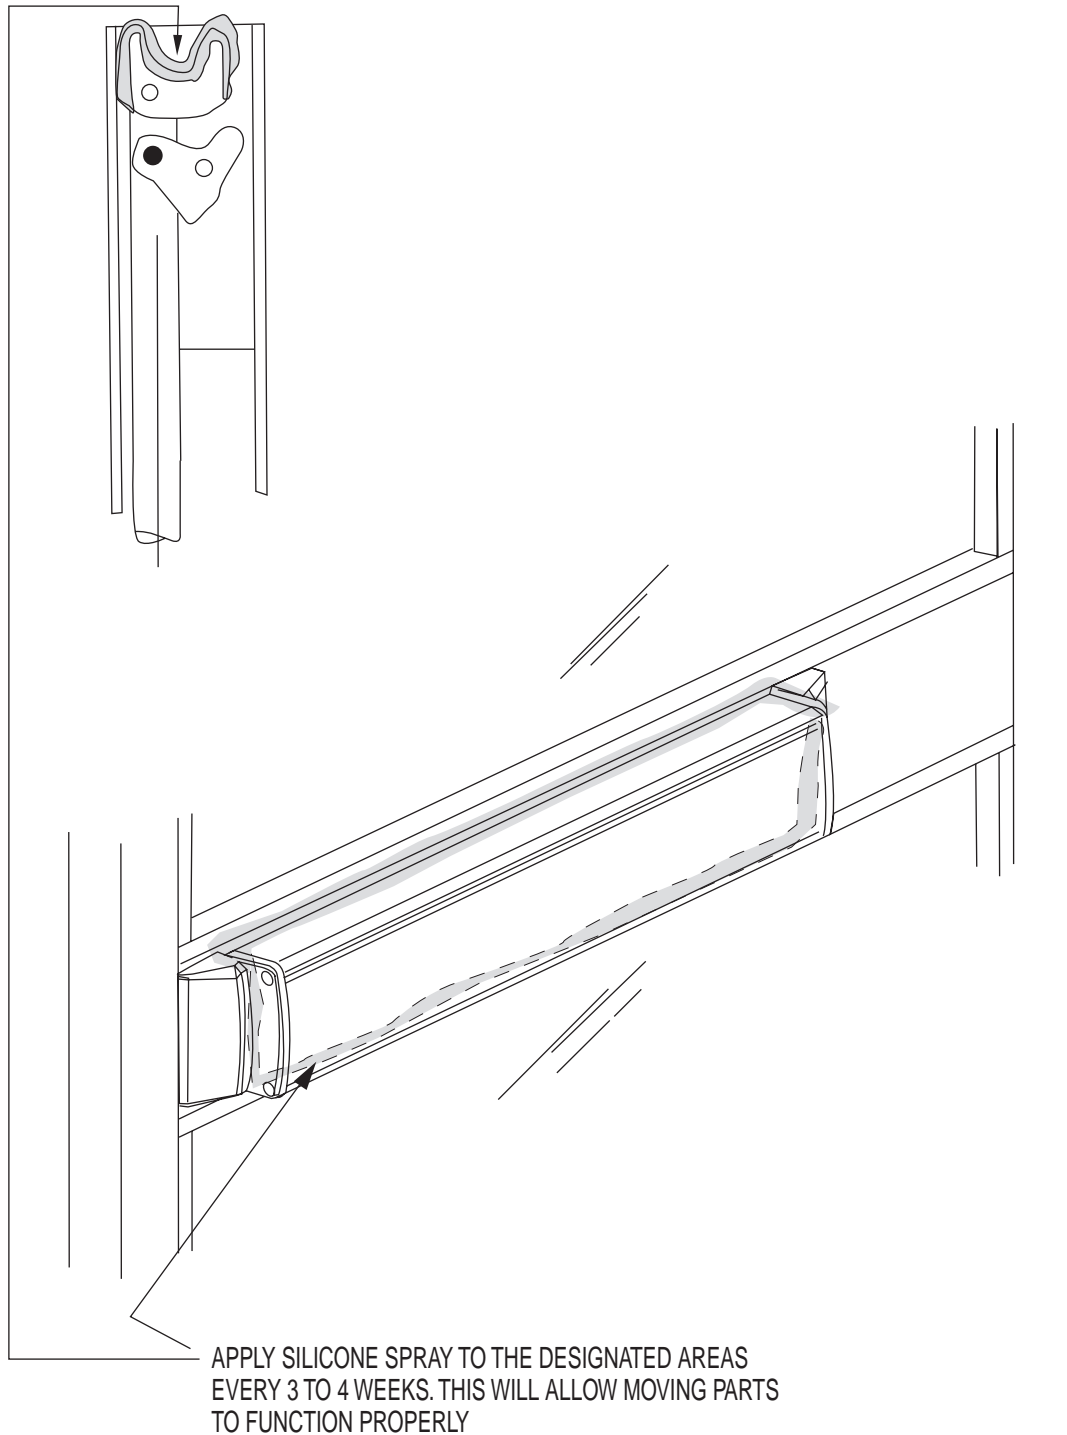

Figure 3
3. Exit Device (Panic) Hardware (fig. 3 pg. 31)